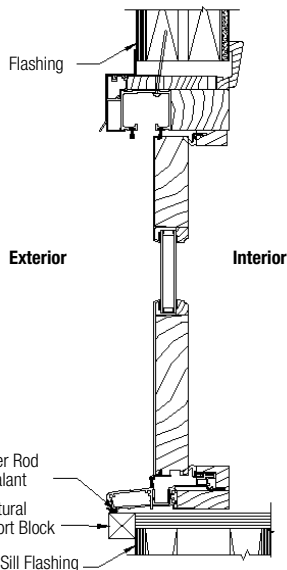

FIG. 21 (SILL)
- B) After siding or wall exterior is complete, apply backer rod and sealant between the door frame and siding material on both sides and sill. Make sure to use 100% silicone sealant. (Fig. 21 & 22)